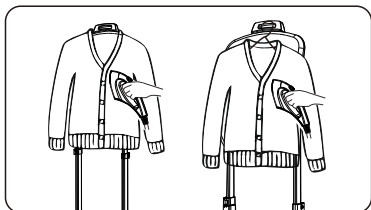
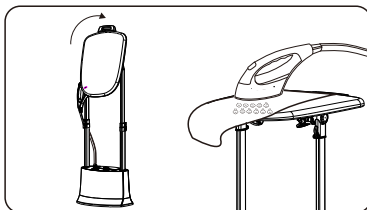

Figure 17
Figure 18
1. Hang garments on the Cloth Hanger(Figure 17) on the machine, or hang garments on additional cloth hangers and place , on the machine's hanger. (Figure 18)